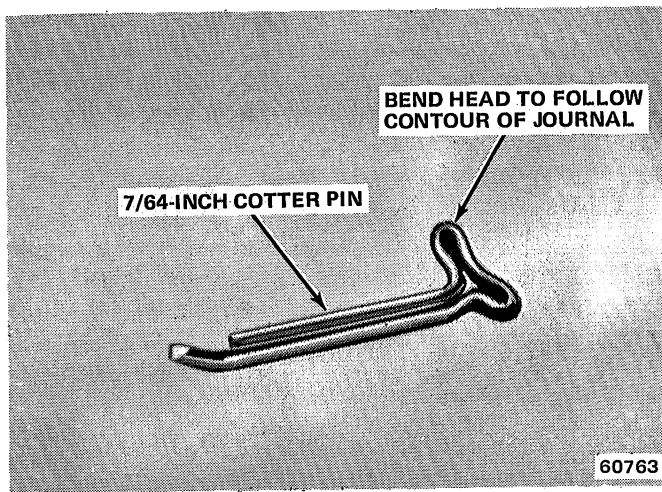

Fig. 1B-39 Fabricated Upper Main Bearing Insert Removal and Installation Tool
(1) With oil pan, oil pump and spark plugs removed, remove cap from main bearing requiring replacement and remove lower bearing insert from cap.
(2) Insert upper main bearing insert removal and installation tool in oil hole in crankshaft journal. If tool is not available, tool (fig. 1B-39) may be fabricated from cotter pin by bending as required.
(3) Rotate crankshaft clockwise as viewed from front of engine. This will roll upper bearing insert out of block.
(4) Apply oil to replacement upper bearing insert and position plain (unnotched) end between crankshaft